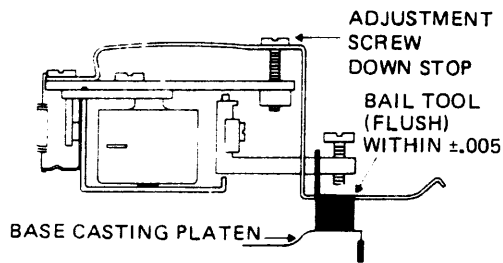

FIGURE 6 HEAD LOAD ACTUATOR DOWNSTOP ADJUSTMENT
d. Adjust down stop so as the top of Head Load Bail is flush with top of tool within $\pm .005$ " at track 76. Reference Figure 6.
- h. If item 'g' is ok, adjust down stop screw (Figure 6) CW until timing is met. Note, not to exceed $\frac{1}{4}$ turn.